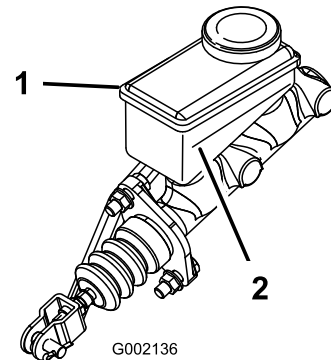

Figure 90
5. Look at the outline of the fluid level at the side of the reservoir (Figure 90).
- B. Add DOT 3 brake fluid to the reservoir until the fluid level is above the Minimum line (Figure 90).